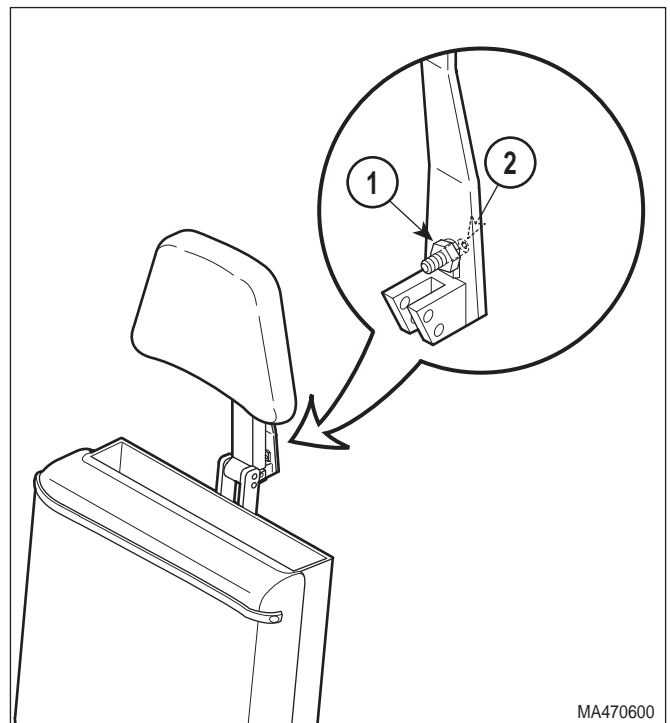

Figure 4-29. Headrest Handles
- (1) Loosen nut (1, Figure 4-29).
- (2) Push on upper lock handle until it reaches a point where the upper lock handle wants to lock itself by going over center; then allow upper lock handle to go over center a few degrees. Hold the upper lock handle in this position and adjust stop screw (2) so the upper lock handle will be forced to stop in this position each time it is locked.
- (3) Tighten nut (1).